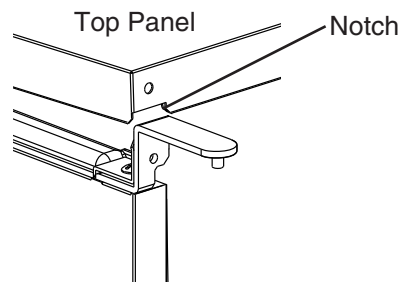

Fig. 7
e) Rotate the top panel 180° from its previous position. This brings the notch that was previously in the right rear to the left front. See Fig. 7. Hook the rear part of the panel on the body, then secure the front with the 2 screws removed in step 6a.